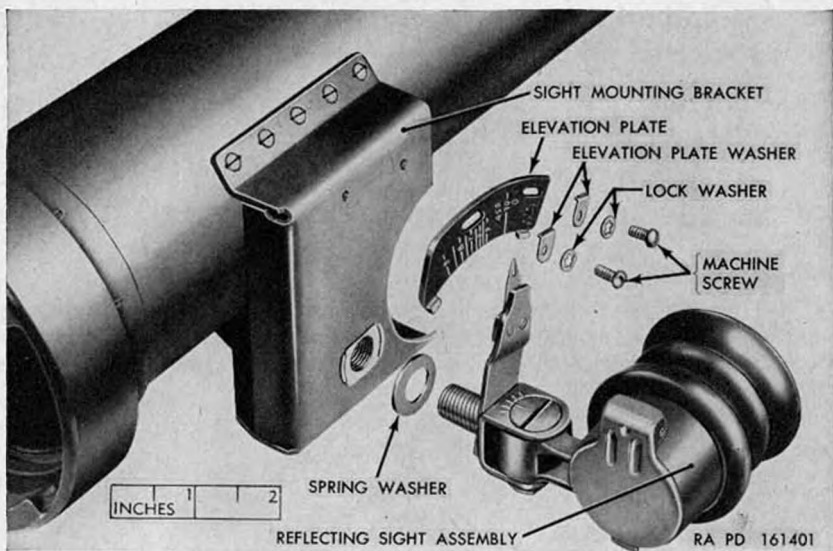

Figure 33. Reflecting sight assembly removed from barrel.
d. Attach the reflecting sight assembly to the barrel (fig. 33), by inserting the threaded stud of the sight assembly in the retainer of the mounting bracket of launcher M20 or in the cast appendage of launcher M20B1. Turn the indicator arm clockwise to the end of the threads and then back off sufficiently to permit the indicator arm to point to the extreme right of the bracket. It may be necessary to raise the pointer, in order to clear the housing on the last few turns. Raise the pointer and slide the elevation plate in position, so that the slots in the elevation plate are alined with the holes in the bracket. Install the elevation plate washers, lock washers, and screws.